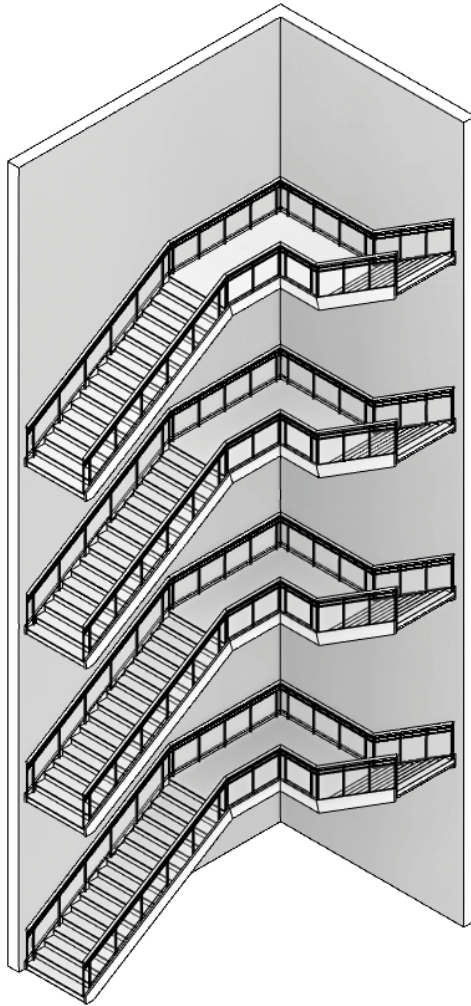

FIGURE 4.18 Multistory stair up to Level 5
3. Change the value to Level 5 and notice what happens (Figure 4.18).